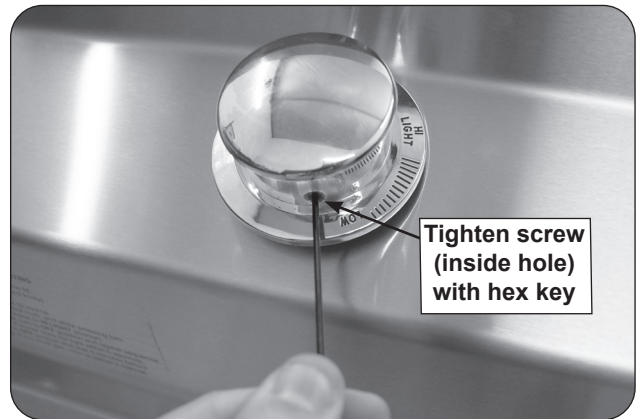

Fig. 29-2 Tighten screw to lock knobs
3. Insert the included .078" (2mm) hex key through the small hole located on the side of the knob and fully tighten the screw (see Fig. 29-2).